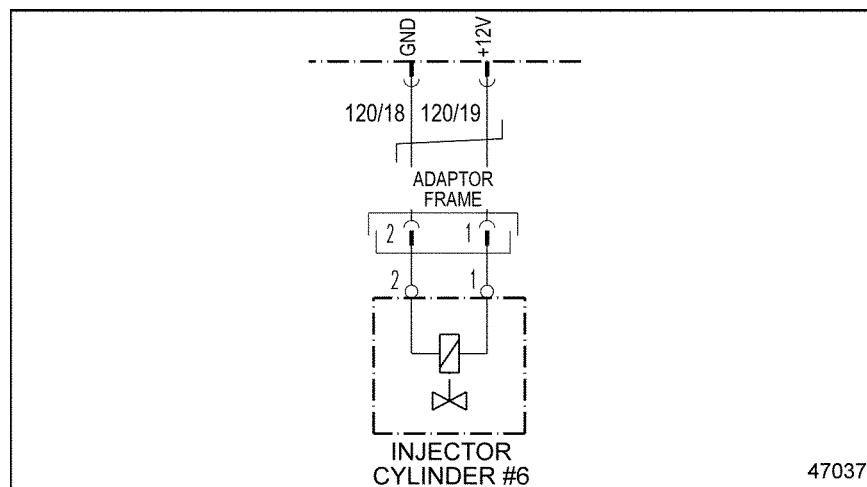

Figure 29-1 **Injector #6**
4. Measure the voltage between pins 1 and 2 of injector #6. See Figure 29-1.